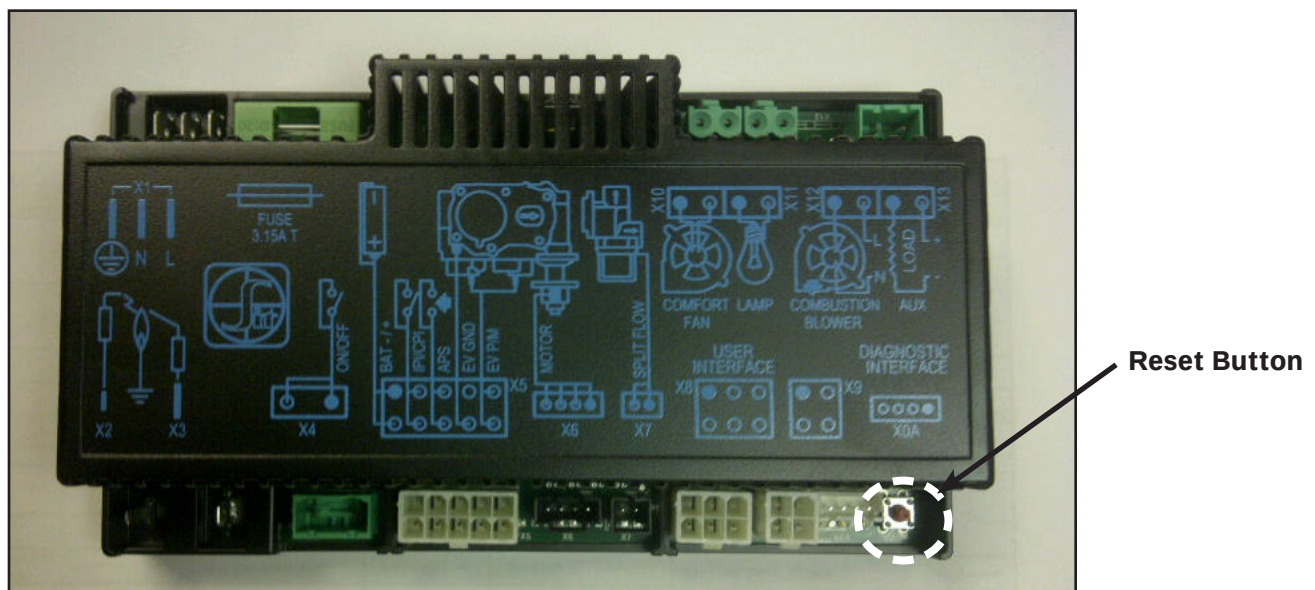

Figure 7: Integrated Fireplace Controller
The Proflame 2 IFC (Figure 7) connects directly to the gas valve, split flow valve, stepper motor, pilot and convection fan with a wiring harness. The IFC is mainly powered by 120 VAC but can also run off a battery backup four (4) AA type batteries for shorter periods of time. The IFC accepts commands via radio frequency from the Transmitter to operate the appliance in accordance with the particular Proflame 2 system configuration. The IFC has a red reset button at the front right corner that is used to synchronize the Transmitter when using the for the first time, or after the batteries have been replaced.
Install the four (4) AA batteries into the IFC battery holder. Note the polarity of the battery and insert into the battery bay as indicated on the body of the battery holder. Press the reset button on the IFC marked "SW1" (see Figure 7).